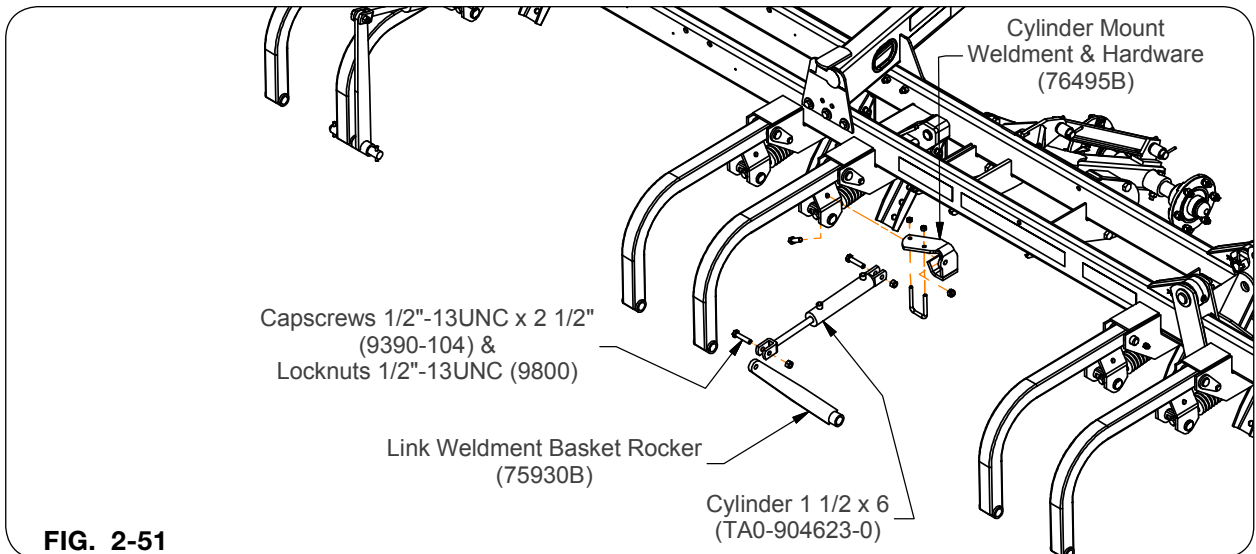
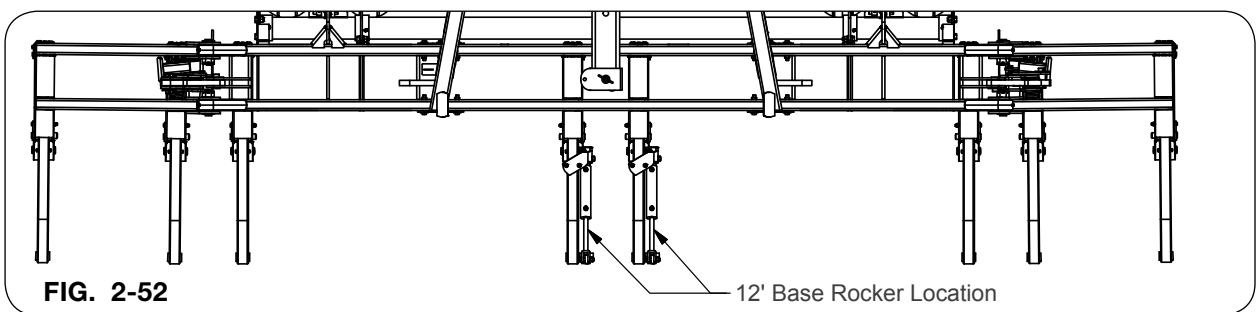
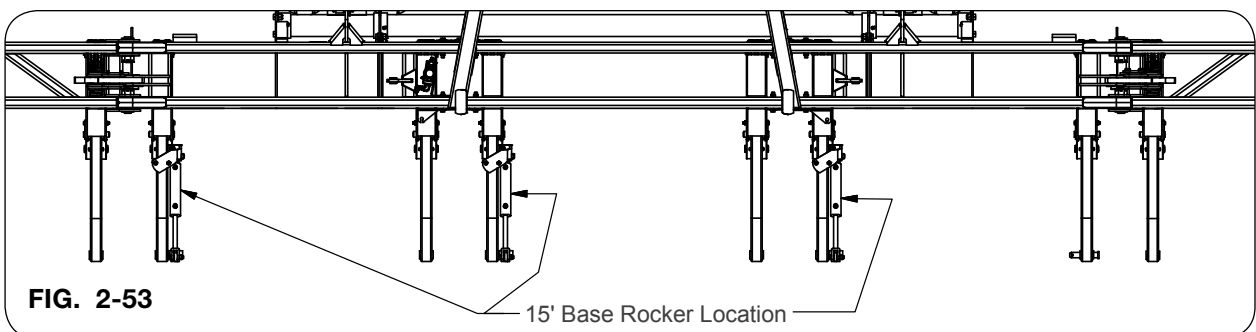

FIG. 2-51
FIG. 2-52
FIG. 2-53
1. In parts box (12' Base - 76543B; 15' Base - 76556B) locate 1 1/2" x 6" cylinders (TA0-904623-0), cylinder mount weldments and hardware (76495B), link weldment basket rockers (75930B), 1/2"-13UNC x 2 1/4" capscrews (9390-104) and 1/2"-13UNC locknuts (9800). Install base end of cylinder with ports facing up to the mounting bracket of the basket rocker arms using capscrews and locknuts. (FIG. 2-51, FIG. 2-52, FIG. 2-53)
2. Attach the cylinder mount weldments and hardware (76495B) to the bent arm. (FIG. 2-51, FIG. 2-52, FIG. 2-53)
3. Attach base end of the cylinders to the cylinder mount weldment with 1/2"-13UNC x 2 1/4" capscrews (9390-104) and 1/2"-13UNC locknuts (9800). (FIG. 2-51, FIG. 2-52, FIG. 2-53)
4. Secure the rod end of the cylinders (TA0-9046230) to the link weldment basket rocker (75930B) using 1/2"-13UNC x 2 1/4" capscrews (9390-104) and 1/2"-13UNC locknuts (9800). (FIG. 2-51, FIG. 2-52, FIG. 2-53)